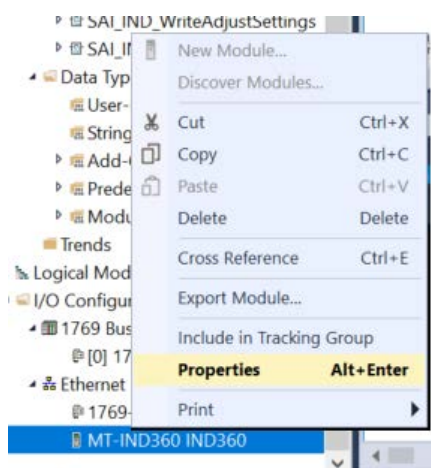

Figure 4-1 Select Properties
**A:** No. The AOI instance can be named anything as long as the name is unique. They must be unique so that if we are using multiple of the same AOI, we can distinguish between them in the code. See Figure 4-1 for an example of an AOI instance name that does not match the AOI name but is still valid.